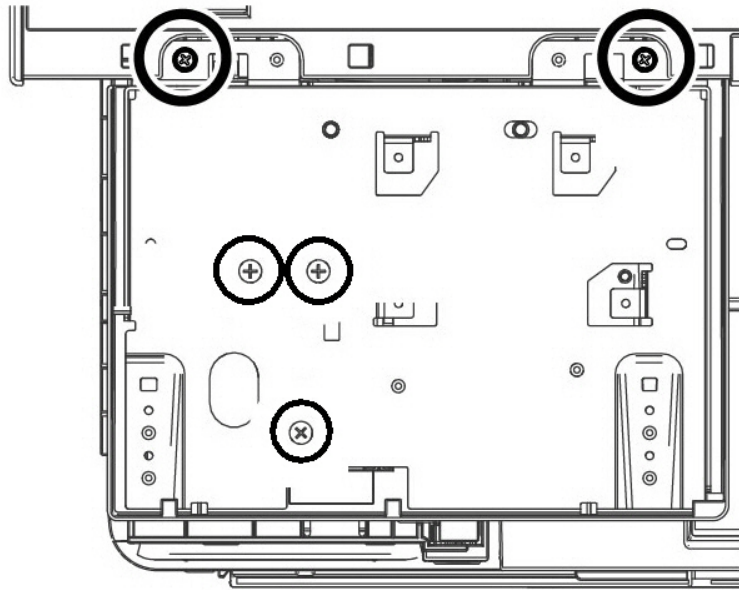

Figure 3 UI plate screw locations
18. Refer to *Figure 3*, remove the 2 screws that connect the UI plate to the scanner, and the three screws in the bottom of the UI plate.
20. Refer to Figure 3, remove two screws (SM18, silver, M3X6mm) to release the ground harnesses from the ESS PWB, PL 18.1 Item 3.
22. Refer to Figure 3, remove three screws (SM18, silver, M3X6mm) to remove the scanner assembly PL 50.1 Item 13 in the direction of the arrow.